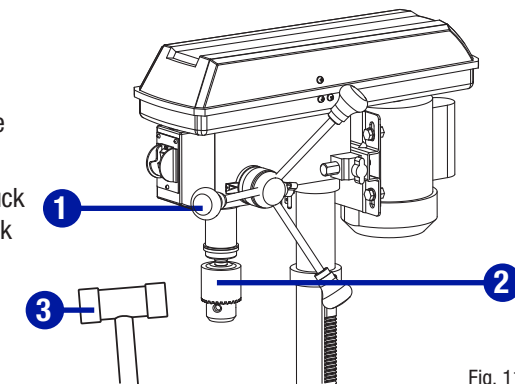

Fig. 11
**REMOVE THE CHUCK (Fig. 11)**
- Turn the feed handles (1) to lower the chuck (2) to the lowest position.
- Place a ball joint separator (not shown) above the chuck and tap it lightly with a hammer (3) to cause the chuck to drop from the spindle.